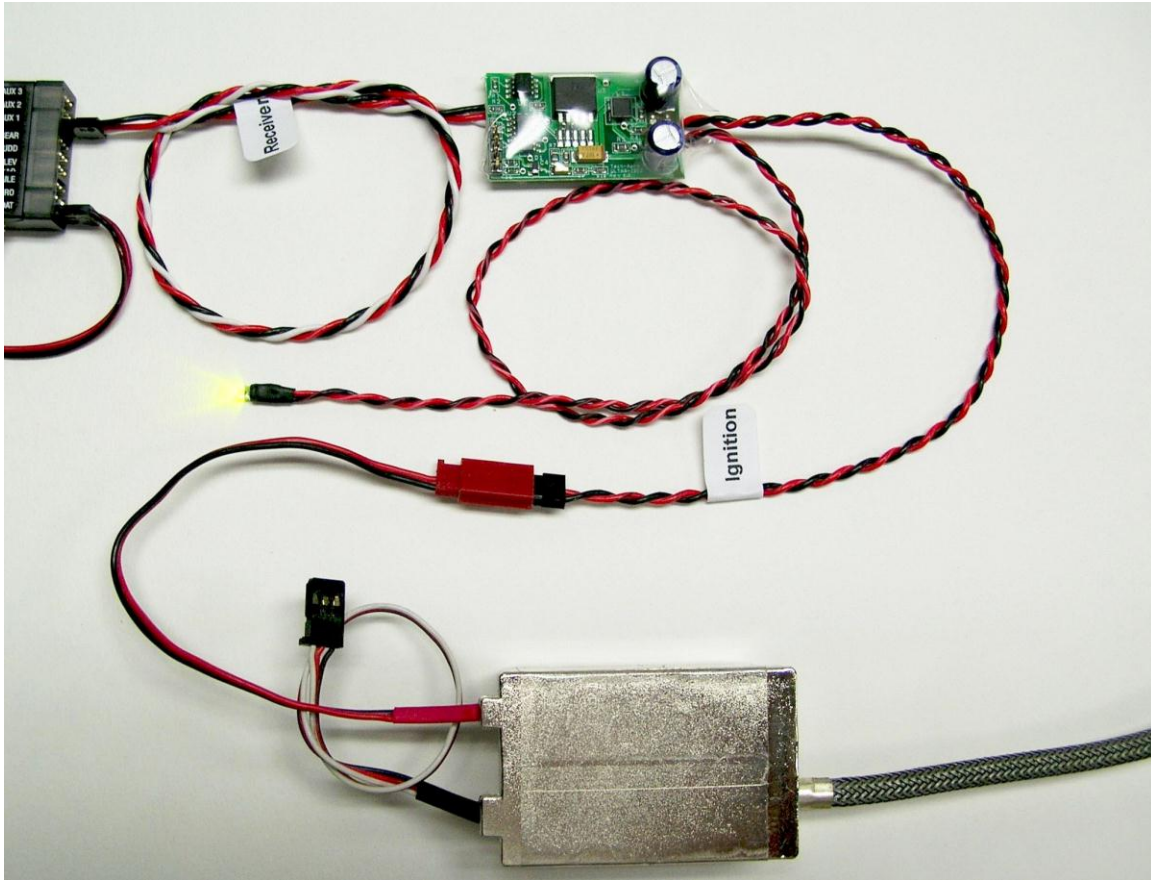

Figure 2 – Ultra IBEC Connection to Receiver and CDI Module
Please refer to Figure 2 on the next page, showing the Ultra IBEC connected to an auxiliary channel of a receiver. The Tech-Aero Ultra IBEC provides significant flexibility in your choice of supply voltage and battery configurations. For example, dual redundant regulators and batteries are ideal to assure that the entire flight pack and ignition module will continue to operate in the event of a single battery, wiring, or even a regulator failure. Alternatively, the Ultra IBEC may be used in configurations where the receiver and servos are powered by one or more *unregulated* NiCad or NiMh, A123, LiPo or Li-Ion battery packs. Unregulated NiCad or NiMh packs up to 7 cells may be used if desired, and up to a 3 cell A123, or 2 cell LiPo or Li-Ion unregulated battery packs may be used for power with the Ultra IBEC, provided that the rest of the flight pack (receivers & servos) can tolerate such high voltages. The Ultra IBEC will take care of providing the correct voltage to the CDI module via its jumper selectable voltage output feature. This is a powerful feature that protects against obsolescence with the advent of high voltage (HV) technology servos that are becoming more popular.